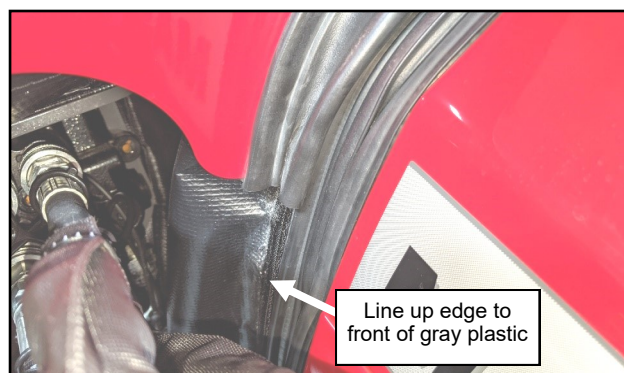

Fig. 20.6 (Line Up Edge Of Filler)
- 20.6** Line up the inner edge of the filler to the front of the gray plastic vehicle cowl and secure. See Figure 20.6.